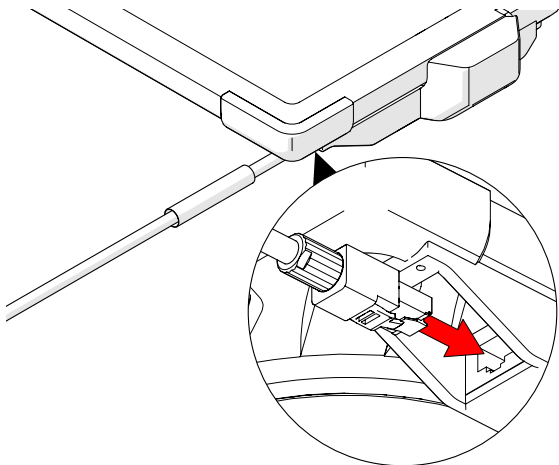

Fig. 28 - Connect the Ethernet connection to the tablet
5. The Ethernet connector of the crawler powered camera cable plugs into the tablet (Fig. 28).